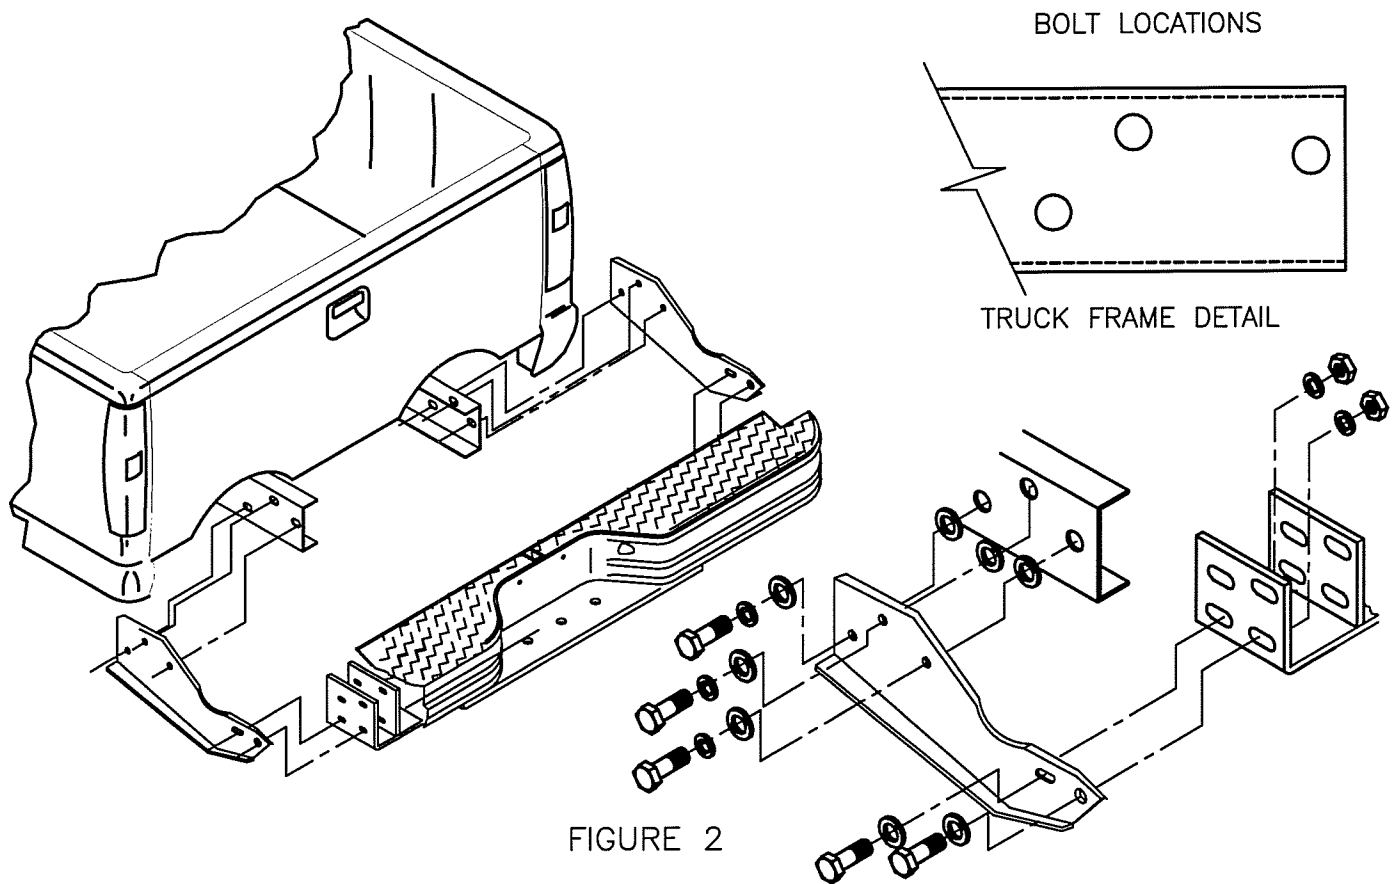

FIGURE 2
STEP 2: Using outer verticals, install bumper onto mounting brackets with brackets outside of bumper verticals. See figure 2. Use 1/2 inch hardware. DO NOT TIGHTEN.